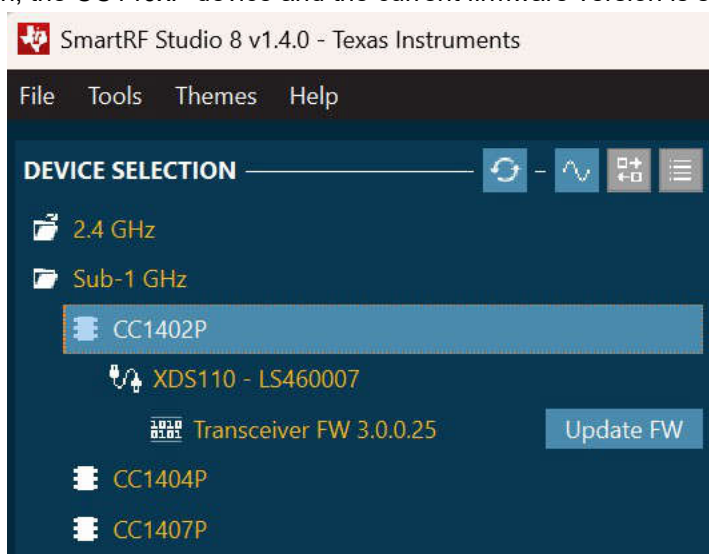

Figure 3-5. Device and Current Firmware Version
3. Under device selection, the CC140xP device and the current firmware version is shown (Figure 3-5).